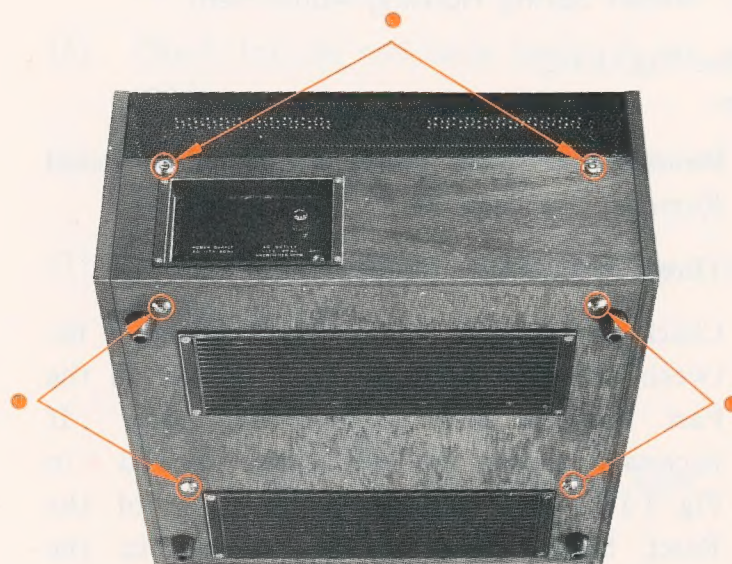

Fig. 2-2. Cabinet removal
- (1) Remove the six screws shown with ● in Fig. 2-2.
- (2) Remove the dummy plug for the remote control by pulling straight up.
- (3) Remove the chassis from the cabinet.